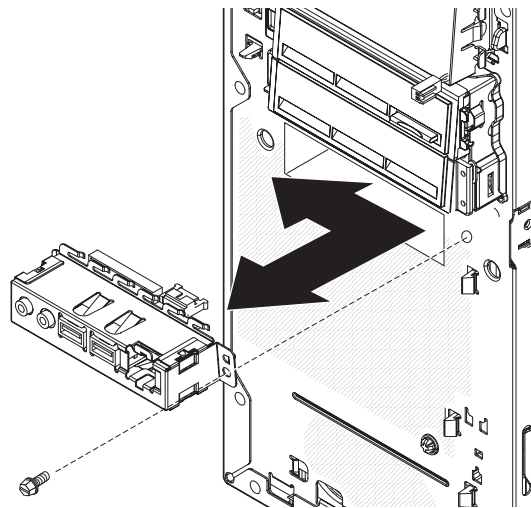

Figure 44. Installing the front I/O panel
2. Insert the I/O panel into the opening in the front of the computer and slide the panel to the left so that the clips on the left edge engage the opening (see Figure 44).